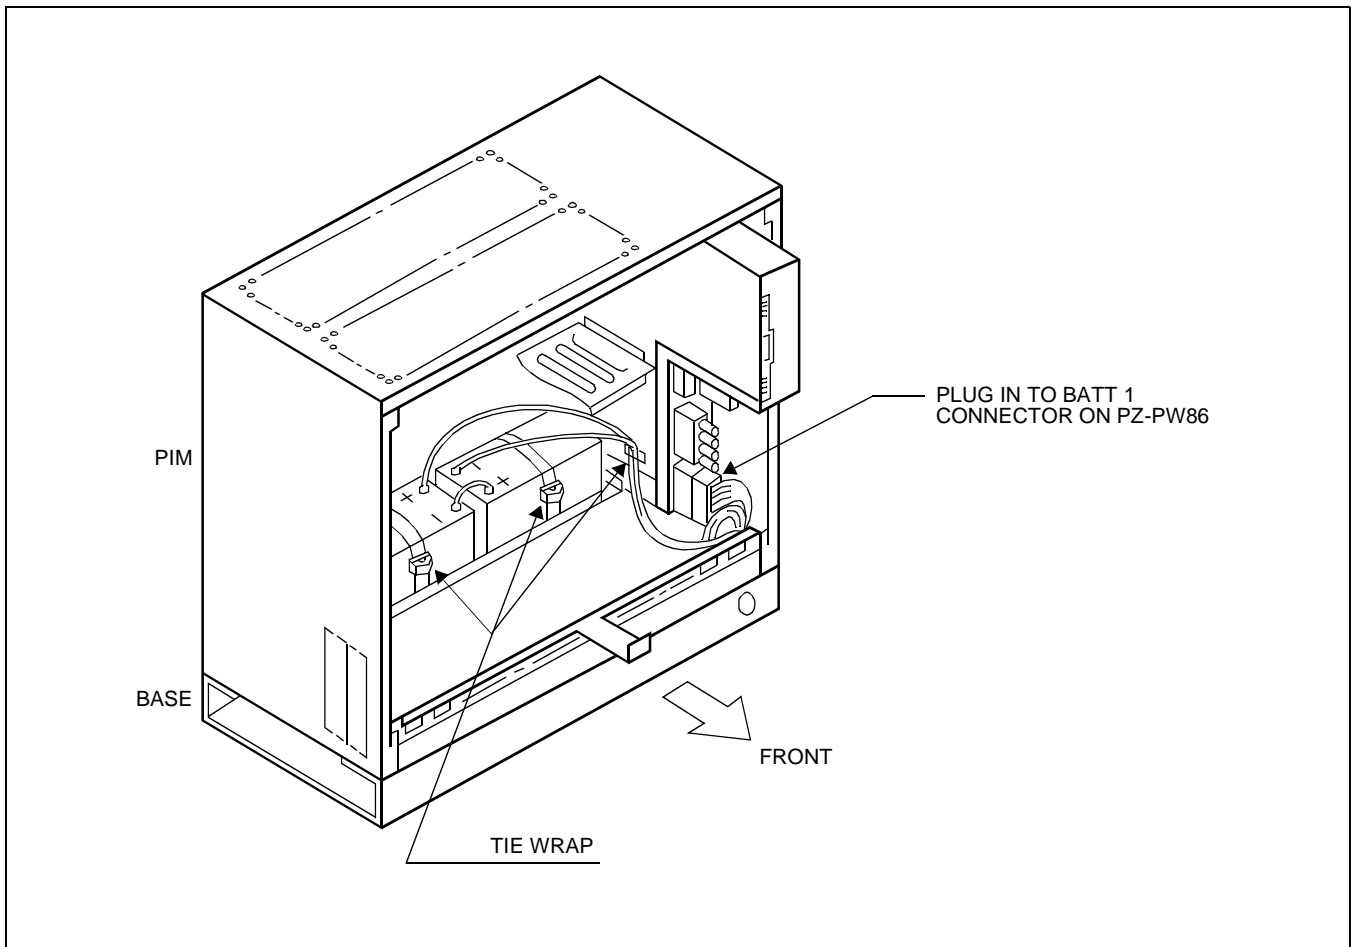

Figure 005-2 Internal Battery Connection
- (2) Plug the battery cable connector into the BATT1 connector on the PZ-PW86 as shown in Figure 005-2.
- (3) Secure the batteries and battery cable using tie wraps as shown in Figure 005-2.